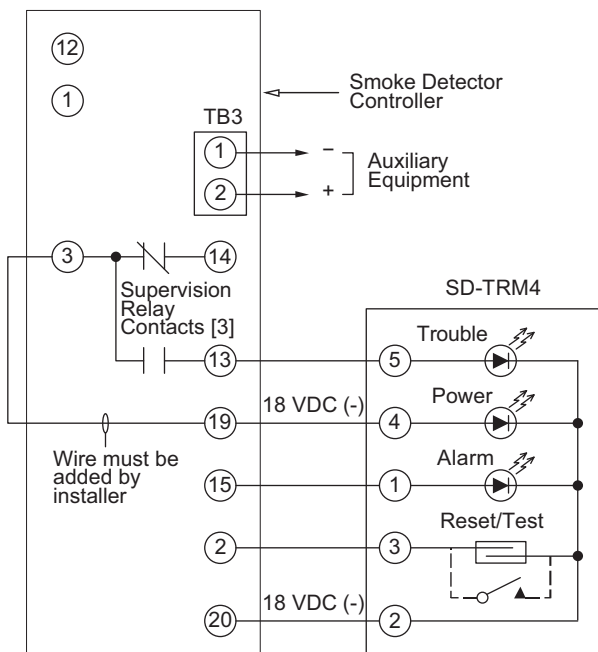

Fig. 48 — Remote Test/Reset Station Connections
The test/reset station dirty sensor test checks the test/reset station's ability to initiate a sensor dirty test and indicate the results. It must be wired to the controller as shown in Fig. 48 and configured to operate the controller's supervision relay. For more information, see "Dirty Sensor Test" on page 30.
1. Verify that the remote test/station is wired as shown in Fig. 48. Repair or replace loose or missing wiring.